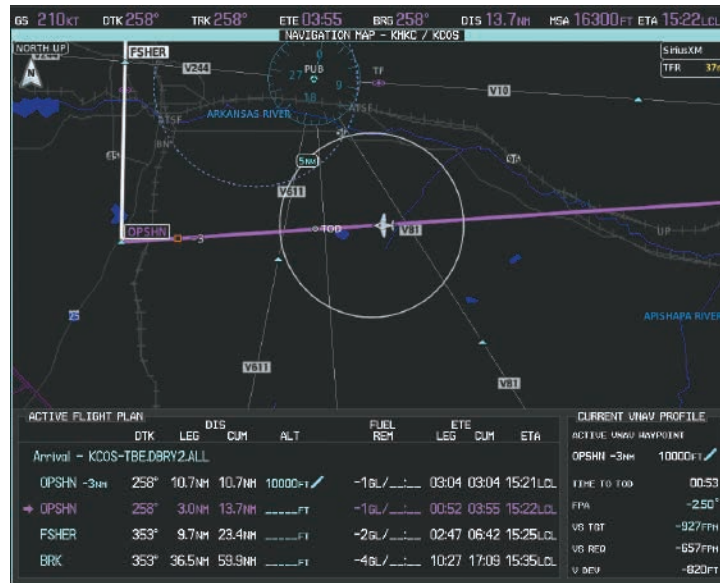
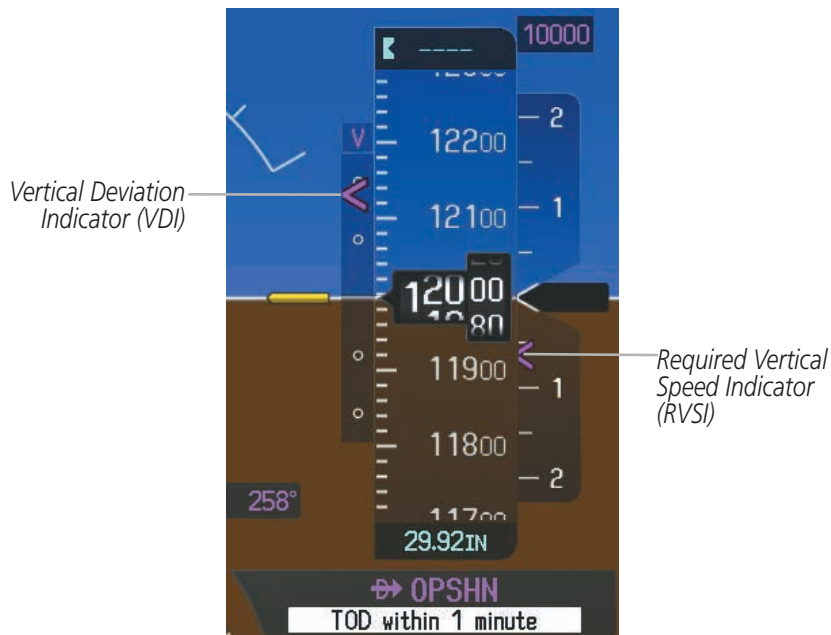

Figure 5-193 Approaching Top of Descent (TOD)
Figure 5-194 VDI & RVSI Upon Reaching Top of Descent (TOD)
- 15) As seen in Figure 5-193, the aircraft is approaching TOD. Note the target vertical speed required to reach the selected altitude. The Vertical Deviation Indicator (VDI) and the Required Vertical Speed Indicator (RVSI) are now displayed on the PFD as shown in Figure 5-194. When the aircraft is within one minute of the TOD, it is annunciated as shown in Figure 5-194, and an aural alert 'Vertical track' will be heard.